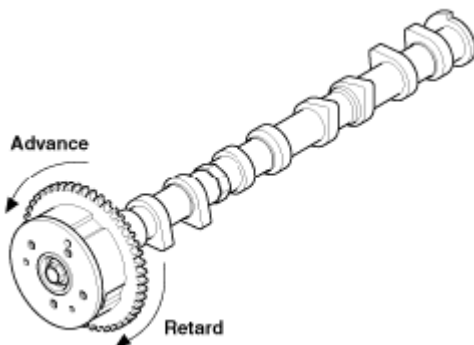

Fig. 35: Turning CVVT Assembly To Advance Angle Side
4. Under the condition of Step 3, turn the CVVT assembly to the advance angle side (the arrow marked direction in **Fig. 35**) with your hand.